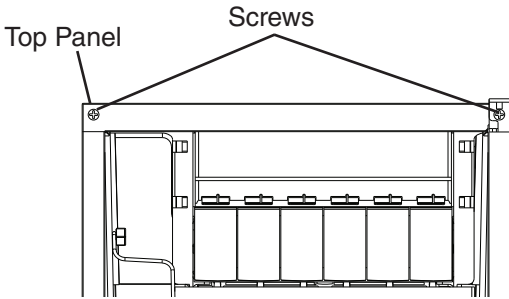

**Fig. 10**
- 5) While maintaining a hold on the door, remove the hinge stop pin from hinge (B). Pull out the bottom of the door slightly and gently remove the door from hinge (A). See Fig. 10. If you are leaving the door right-hinged, skip to step 7. If you would like to reverse the door hinges, proceed to step 6.